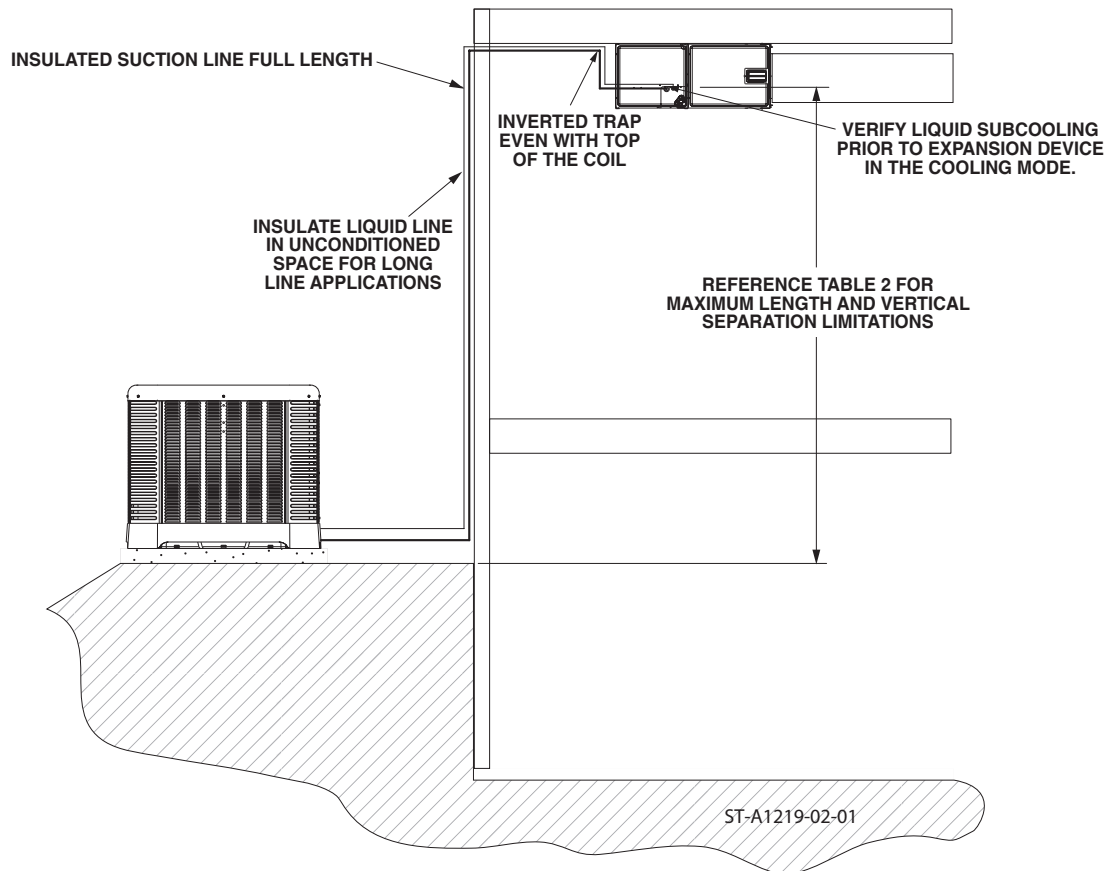

Figure 4
- Inverted suction-line trap (Reference Figure 4).